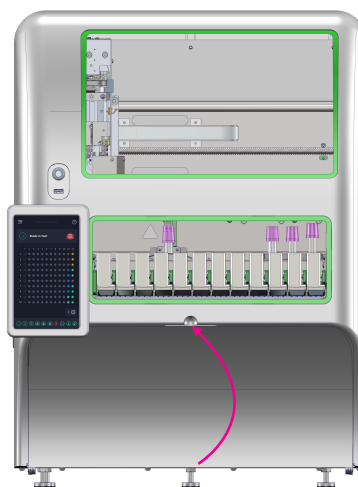

Figure 57
7. Close the Bottle Compartment Door (Figure 57).